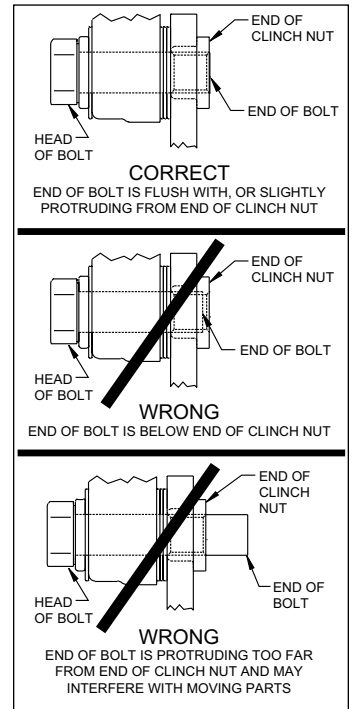

Figure 4. Clinch Nut Engagement Diagram
CAUTION: All mounting bolts must fully engage clinch nuts. Be sure to check that all bolts are either flush or protruding through flanged side of clinch nut after shimming, Figure 4.
- Always use the same amount of shims on each of the two mounting bolts. **NOTE:** *The end of each bolt must be flush with or slightly protruding from the head of the clinch nut, as shown in Figure 4.* If necessary place spare shims between washer (22) and caliper mounting bracket to achieve the proper clinch nut engagement. Once the caliper alignment and clinch nut engagement are correct, remove the bolts one at a time, apply red *Loctite*® 271 to the threads, and torque to 40 ft-lb.